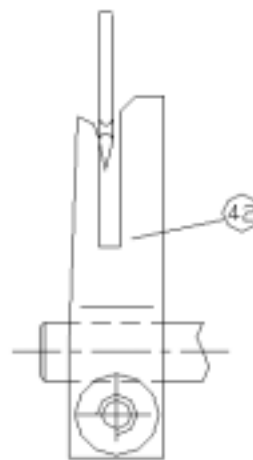

FIG. 18
The needle guard (44) serves to stop any bending of the needle during the sewing of very thick pieces of fabric. The part of the needle guard that performs this function is the inner side of the shortest tooth. FIG. 18.